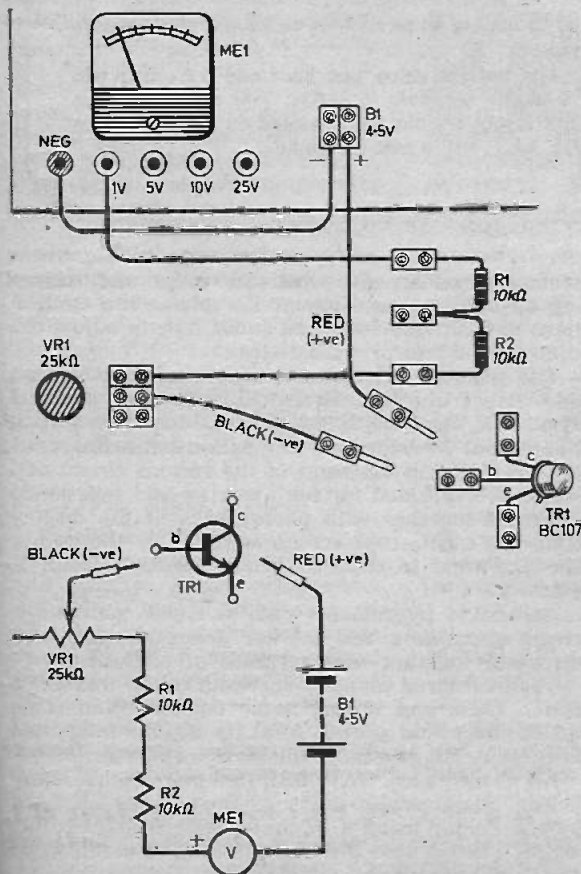

Fig. 6A.1. The circuit diagram and layout on the Circuit Deck for experiment 6A.
1. Assemble the components on the Circuit Deck as shown in Fig 6A. 1, and place your "resistance" calibration card (from experiment 3C.1) over the meter. (See *Teach-In Matters Arising*, page 150).
The correct value can be made up using two 10 kilohm resistors in series. The circuit diagram and layout should be amended to that shown in Fig. 6A.1, and a new card made.